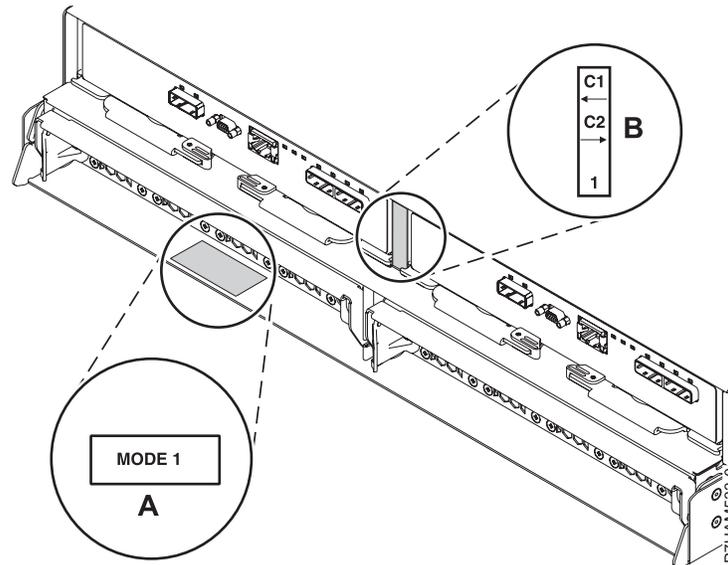

Figure 27. Mode sticker locations at the rear of the 58/87 disk drive enclosure
- b. Confirm the factory-set mode of the 58/87 disk drive enclosure by using information printed on stickers at the rear of the enclosure. Stickers are attached to the lower-left shelf of the chassis (A) and the center support between the enclosure services manager (ESM) modules (B). The stickers indicate whether the enclosure is set to mode 1, mode 2, or mode 4, as shown in Figure 27.